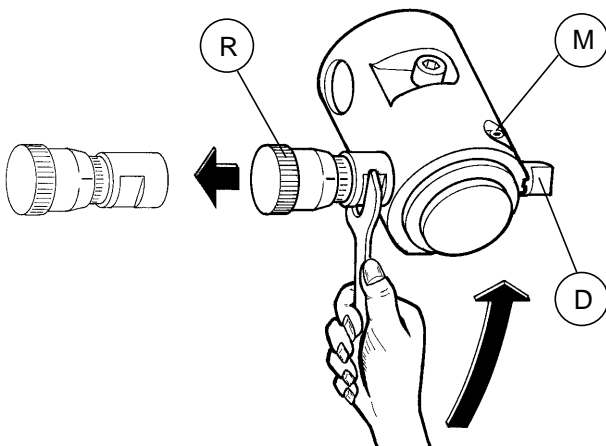

Fig. 12
- 1) Completely unscrew the tracer point knob (R) and remove it as shown in fig. 12.